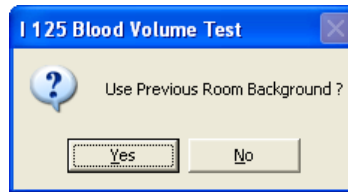

Figure 10-39
**Note:** If the background has recently been counted, then the screen shown in Figure 10-39 will appear. To skip counting the background again and proceed to step 5, click the **Yes** button or press the Y key. To re-measure the background,